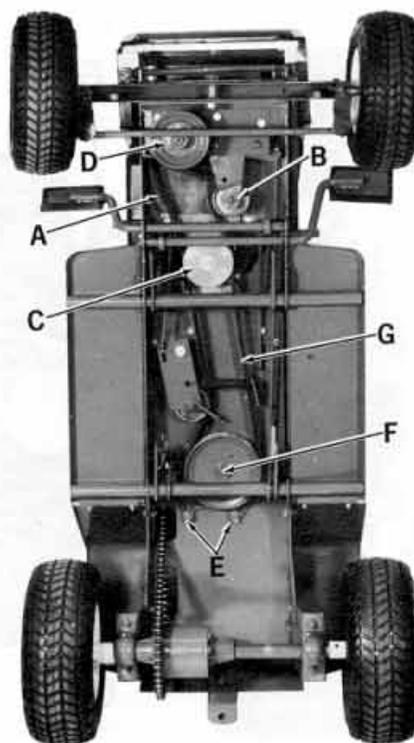

Fig. 10
2. Belt Removal (See Fig. 10): To remove the engine-to-jackshaft belt (ref. A), put transmission in any gear, tilt tractor on its back end, and place a block of wood under the seat. Pull blade clutch handle so idler arm (ref. B) will pivot over and clear of belt. Remove belt from engine pulley (ref. C), release idler arm (ref. B), and remove belt from jackshaft pulley (ref. D).